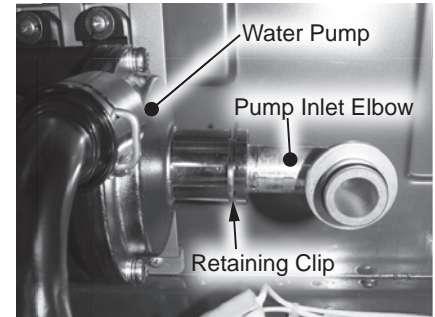

Figure 162 - Pump inlet elbow location
• Locate the pump inlet elbow. Remove the retaining clip securing elbow to water pump. Remove pump inlet elbow and dispose of properly. See Figure 162.